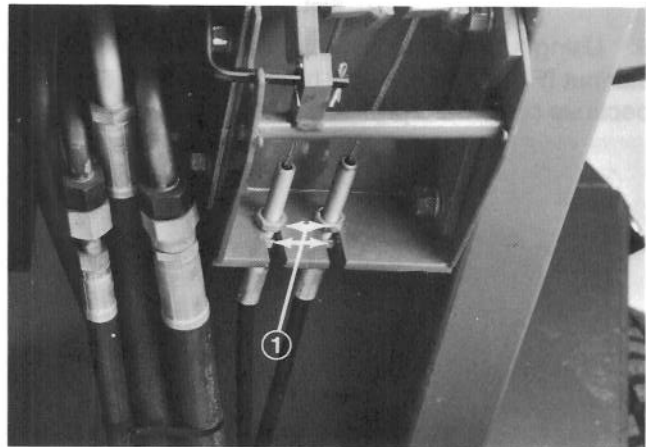

Figure 59
1. To reduce free travel of turn pedals—tighten the brakes—loosen front nut on threaded end of brake cable (Fig. 59). Then tighten rear nut to move cable backward until turn pedals have 1/2 to 1 inch (13 to 25 mm) of free travel. Tighten front nut after brakes are adjusted correctly.